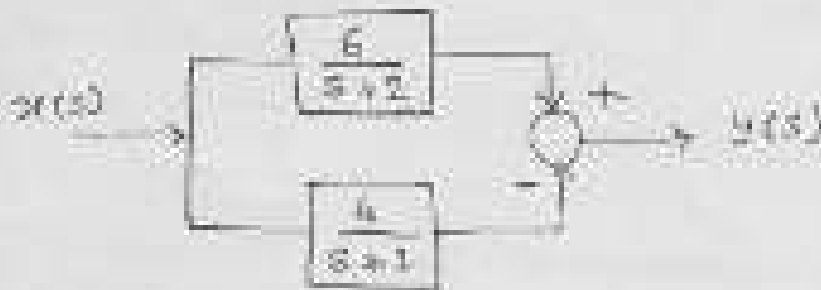

Fig. 5.3
b) Obtain  $y(t)$  when  $x(t)$  is a unit step for the system shown in fig. 5.3. [6]